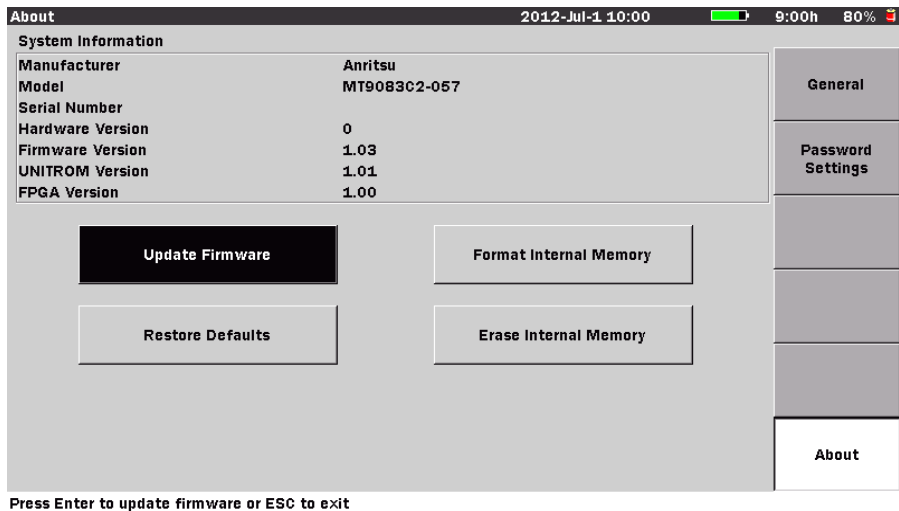

Figure 3-13: About Screen
2. Press **About (f6)**, the About screen appears (see Figure 3-13 on page 3-26).